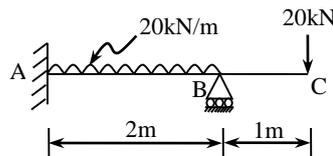

Fig.1
- Q.5 (a)** Using Castigliano's theorem, calculate the propped reaction for the beam as shown in Fig.1. Take EI as constant. **07**